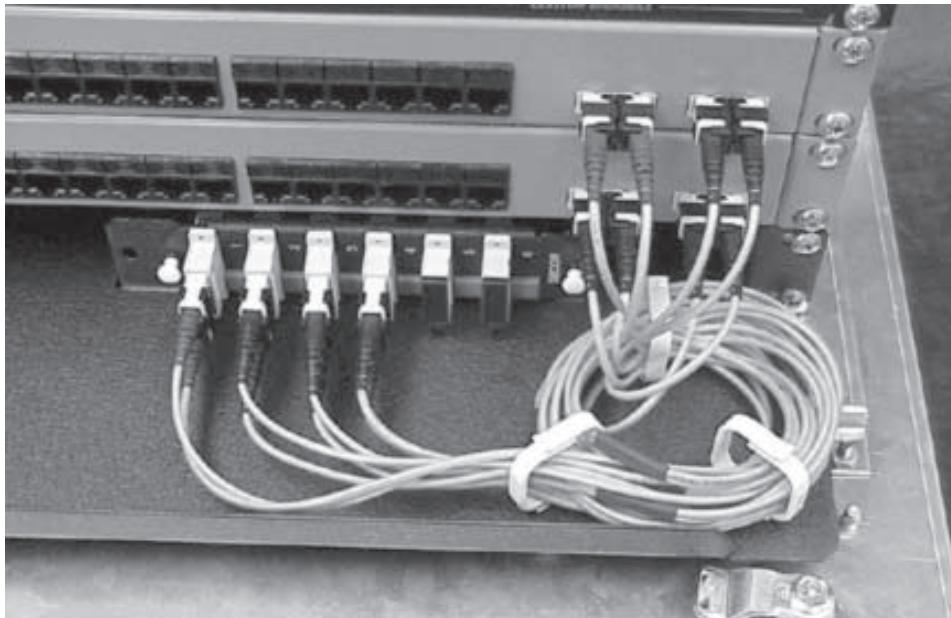

Figure 19
- Step 1** Install fiber jumpers from the fiber connector shelf to switch or router uplink ports (Figure 19), storing any excess jumper length in a loop on the shelf as shown. Be sure to maintain the minimum recommended bend radius for the type of cable being used.